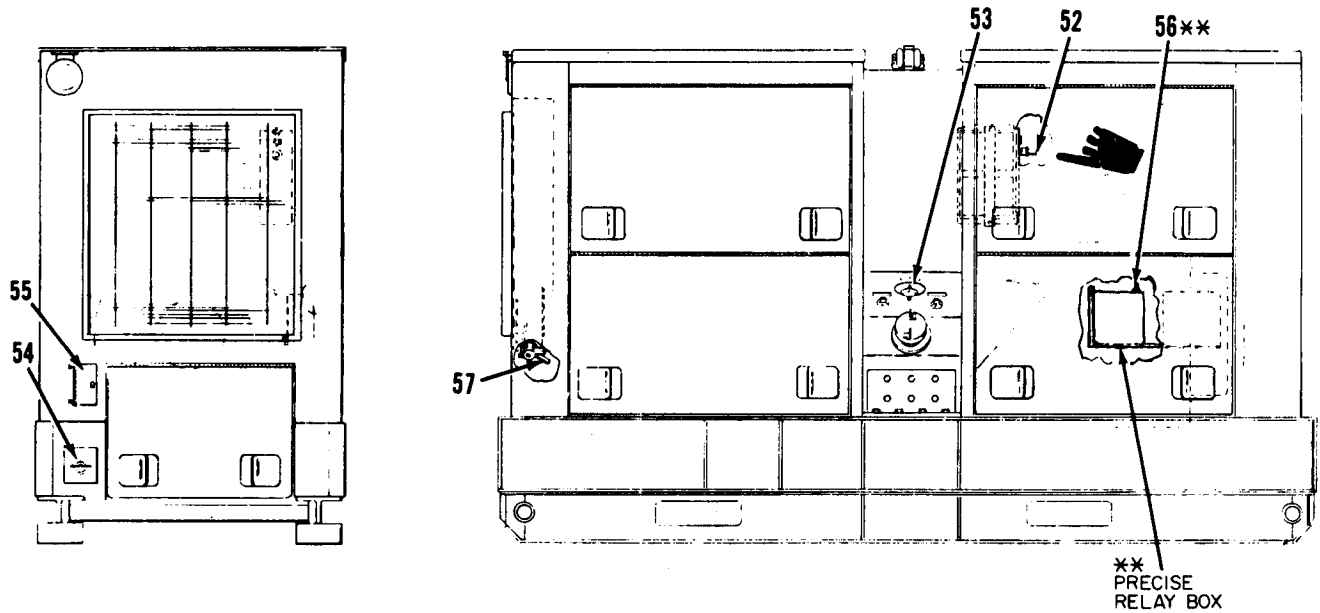

Figure 2-8. Location of controls, instruments, and receptacles
3. On precise 50/60 hertz generator sets, position frequency selector switch (56, figure 2-8) to desired position.
4. Position mode selector switch to desired position and voltage sensing switch (16) to LOCAL.
5. Position voltage adjust rheostat (11) to lower half of adjustment range.
6. On precise generator sets, depress button and push in manual speed control (43) to maximum speed position. Lock manual speed control by releasing button. Manual speed control must be locked in maximum position for all precise power operations. On utility generator sets, depress button and pull out manual speed control (43) 1/4 to 1/2 way.
7. Energize DC control circuit breaker (42) and position start-run-stop switch (21) to RUN.
9. Depress control cubicle indicators (4, 13, and 18, figure 2-8). Indicators should illuminate and go out when released. If indicators do not illuminate, check and replace defective lamp as specified in figure 3-5.